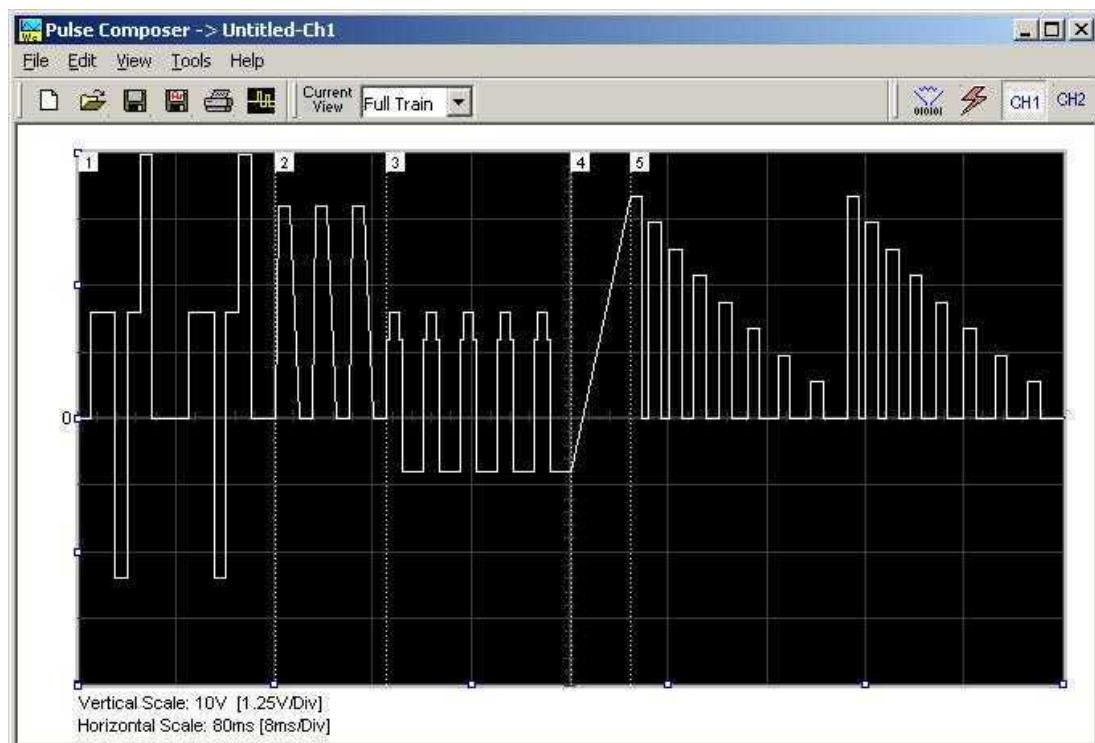
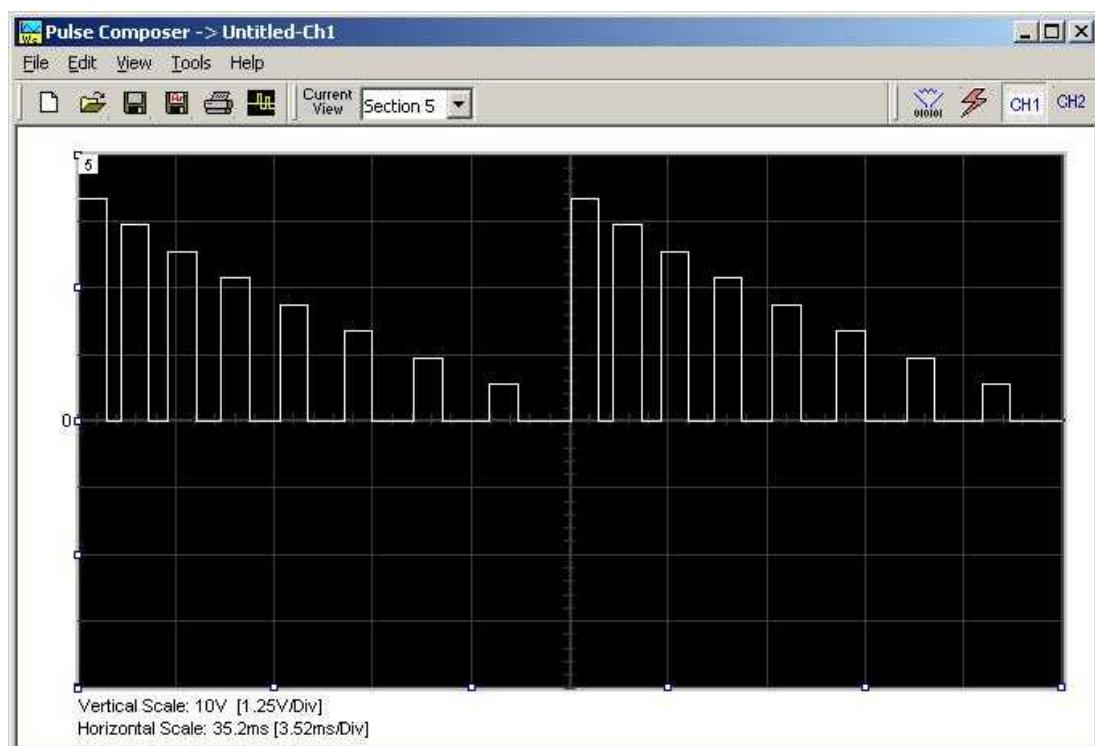
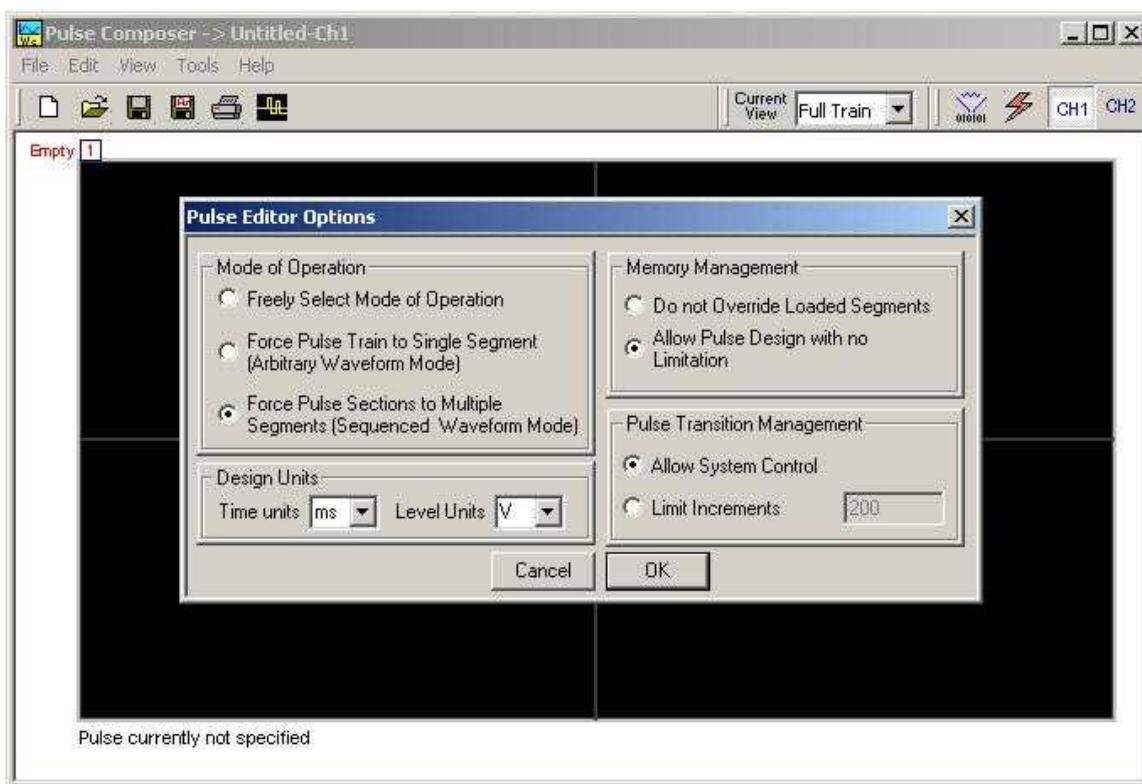
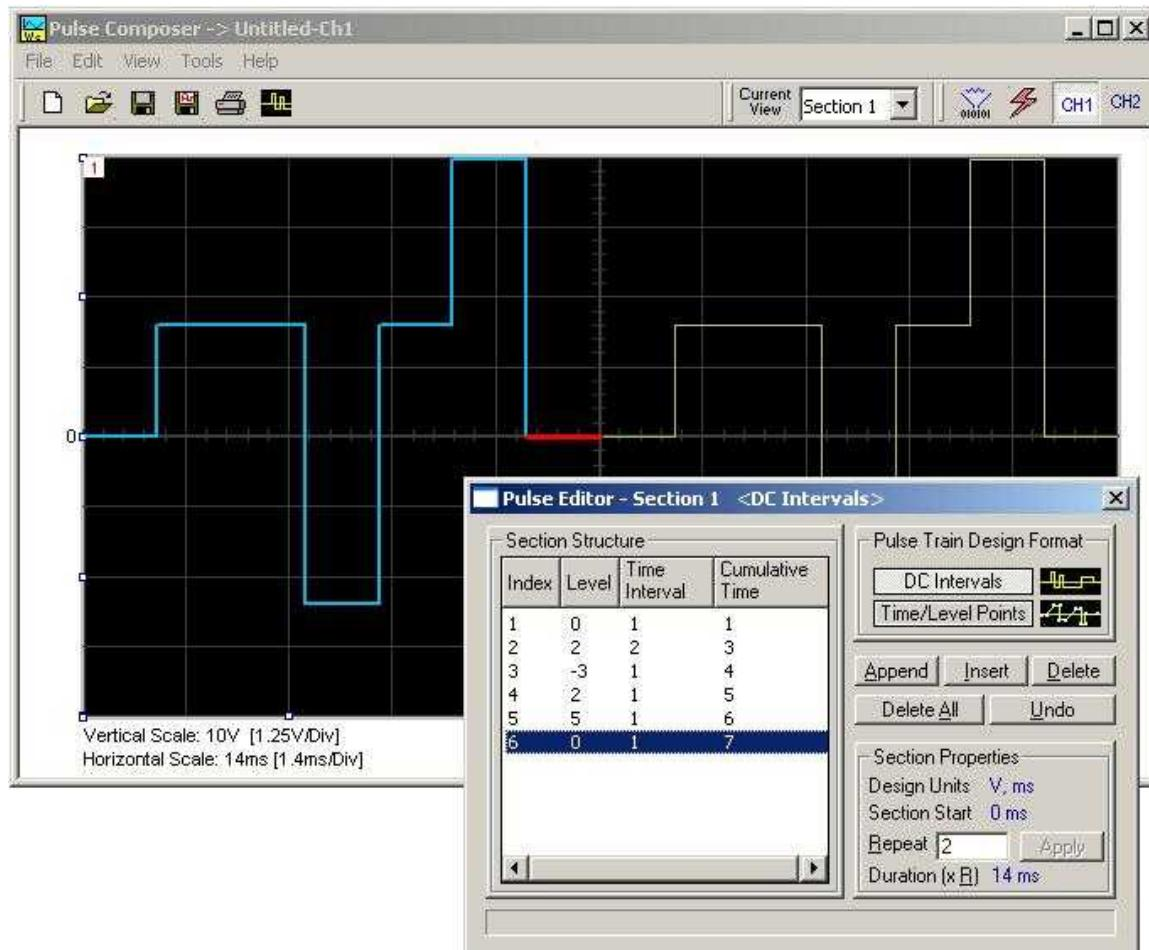

Figure 4-34, Complete Pulse Train Design
Figure 4-35, Section 5 of the Pulse Train Design
Figure 4-36, Selecting Pulse Editor Options
Figure 4-38, Building Section 1 of the Pulse Example
Pulse train is constructed from 1 or more sections. If the pulse is simple, it can be created using one section only. For more complex pulse train, the train can be divided to smaller sections and each section designed separately for simplicity. Figure 4-34 shows a complex pulse train which was made from five simpler sections and Figure 4-35 shows the design of the fifth section only of the pulse train.
Now that we somewhat understand the terms we use for the pulse design, we start with an example how to design the pulse train as shown in Figure 4-34. If you already have some pulses shown on your pulse composer screen, click on New to start from a fresh page. Another step before you design your pulse train is to set the design parameters in the options menu that will determine the way that the pulse will be distributed in your waveform memory. Click on View→Options and refer to Figure 4-36 throughout the following description.
As shown in Figure 4-36, the pulse editor option dialog box is divided to functional groups: Mode of operation, Design Units, Memory Management and Pulse Transition Management. These groups are described below.
Now that we are better familiar with the pulse editor and its options, we are ready to start building the first section of the pulse as shown in Figure 4-34. Point and click on the New icon and open the pulse editor. Type in the level and time intervals as shown in Figure 4-38. Note that the pulse segments are being created on the screen as you type the values.
The first pulse section is complete. We are ready now to start building the second section of the pulse as shown in Figure 4-34. Point and click on the Edit command and select the Append Section option. A new section number will appear but it will show empty next to the section identifier.
The second pulse section is complete. We are ready now to start building the third section of the pulse as shown in Figure 4-34. Point and click on the Edit command and select the Append Section option. A new section number will appear but it will show empty next to the section identifier.
The third pulse section is complete. We are ready now to start building the forth section of the pulse as shown in Figure 4-34. Point and click on the Edit command and select the Append Section option. A new section number will appear and will show empty next to the section identifier.
The fourth pulse section is complete. We are ready now to start building the fifth and final section of the pulse as shown in Figure 4-34. Point and click on the Edit command and select the Append Section option. A new section number will appear and will show empty next to the section identifier.
Congratulations for coming that far. If you followed the above description how to build this pulse example, the screen should look exactly as shown in Figures 4-34 and 4-42. If you are happy with the results, the next step is to download what you see on the pulse composer screen to the generator.
**Mode of Operation** – This describes the new setting of the operating mode. This field could display one of two options: Arbitrary or sequenced. Pay attention to the note (\*) that says “Select from the menu View>>Options” Since we checked the Force Pulse Train to Single Segment (see Figure 4-36), the generator determines that the waveform mode be arbitrary and only one segment can be loaded with the pulse train.